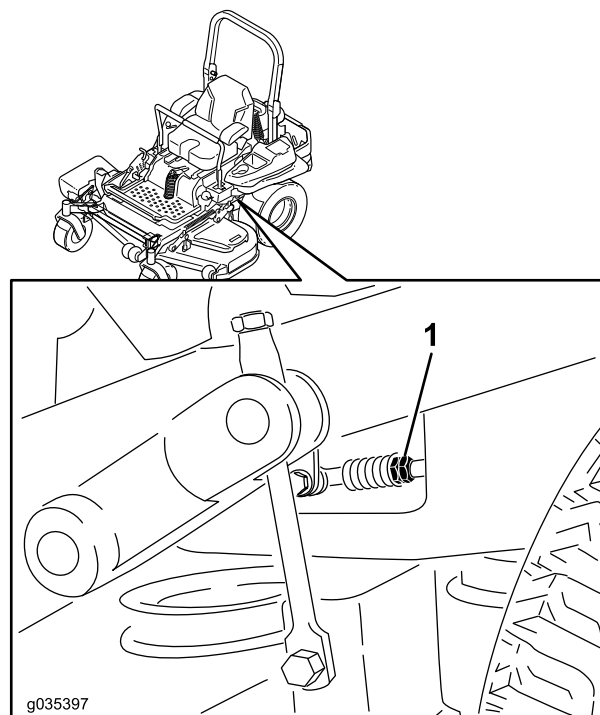

Figure 89
9. Adjust the pump control rod length by rotating the double nuts on the rod in the appropriate direction until the wheels slightly creep in reverse (Figure 89).